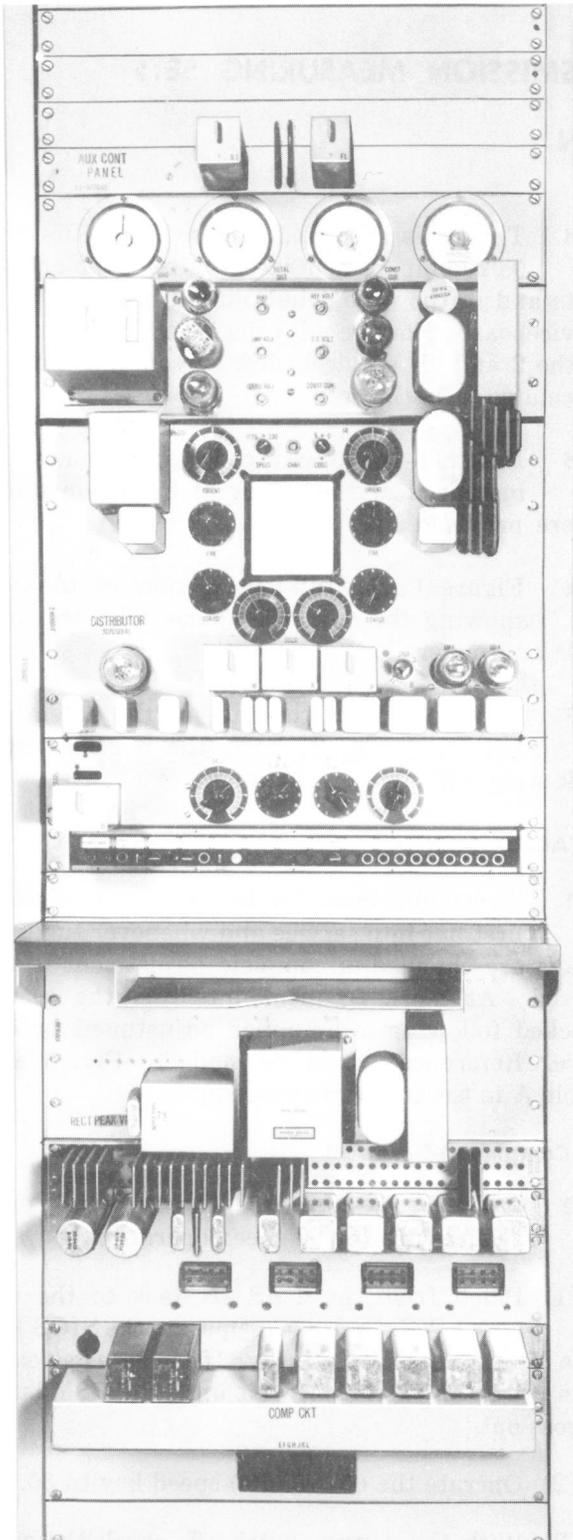

Fig. 1 — 118-Type Set — Front View
1.06 Figure 1 is a full-length view of the set, showing the operating panel with its controls and meters.